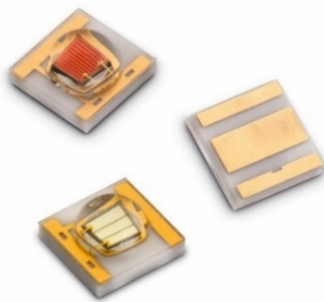
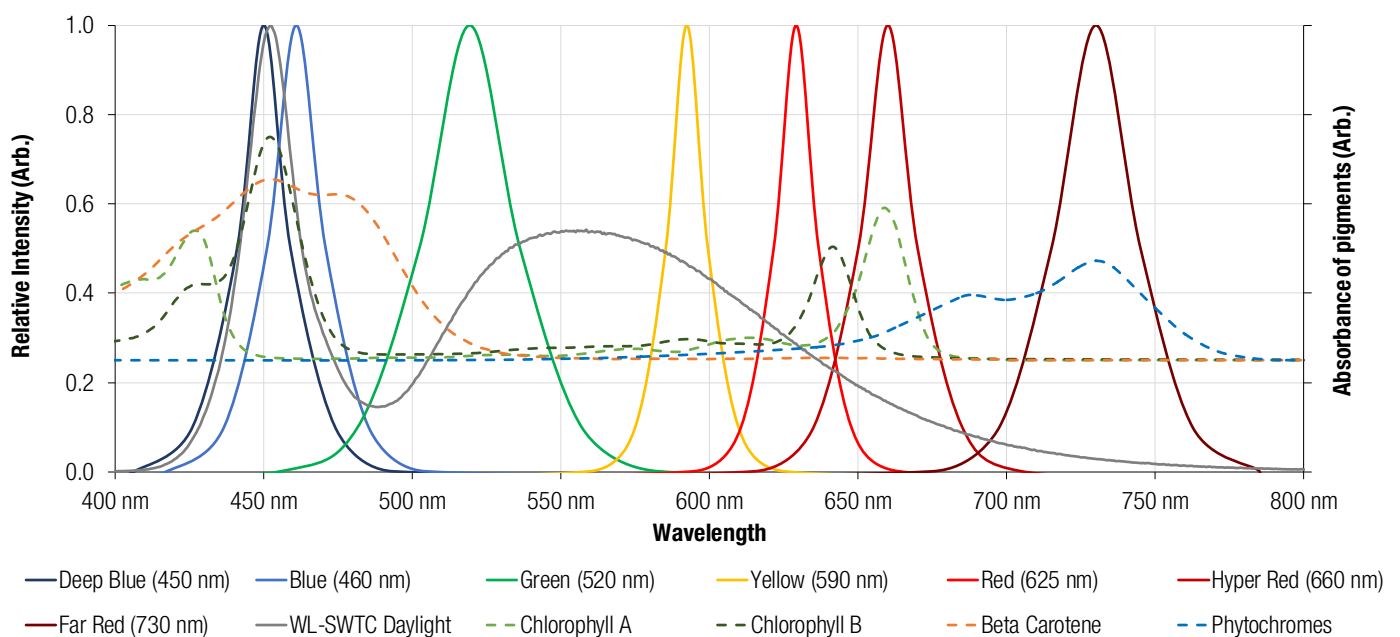

Figure 3: Würth Elektronik WL-SMDC SMD Mono-color Ceramic LED Waterclear
Figure 4: The Emission Spectra of WL-SMDC LEDs Overlaid on the Absorption Spectra of Photosynthetic Pigments
Regarding flowering, decorative plants need to maintain their flowers for as long a duration as possible while in pineapples, it is optimum to inhibit the flowering process to better control the harvest period. As a result, indoor greenhouse operators and artificial light unit manufacturers are always looking for new combinations of wavelengths that are particularly catered to the light recipe of specific species and even cultivars (sub-species) of plants. To meet these requirements, Würth Elektronik offers the **WL-SMDC** SMD Mono-color Ceramic LED Waterclear range of LEDs (Figure 3). The WL-SMDC range has been expanded to include wavelengths of 450 nm (Deep Blue), 660 nm (Hyper Red) and 730 nm (Far Red), which have been selected to match the absorption spectra of photosynthetic pigments. In addition to the existing products in the range, a diverse range of combinations is possible that can be catered to the target cultivar (Figure 4).
- **Photosynthetically active radiation (PAR, ~400 nm - ~700 nm)** – this is the conventionally used range of wavelengths of light that is required by plants to perform photosynthesis (Figure 4). This number can sometimes be misleading as all wavelengths are given equal importance for photosynthesis although as we have seen above, red and blue are the main drivers of photosynthesis. This means the wavelengths of a green LED may fall within the PAR range but will have a very limited effect on plant growth.